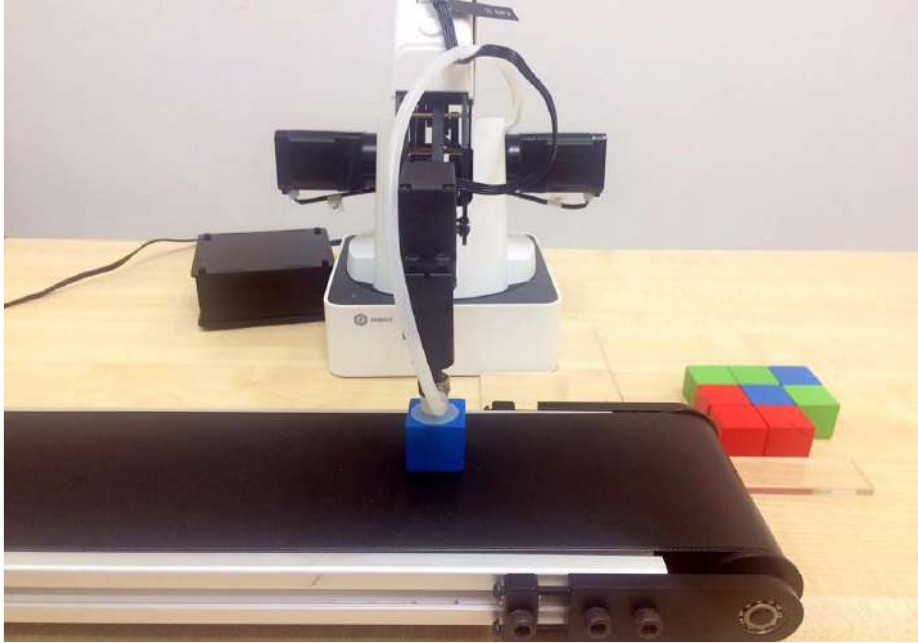

Figure 4.3 Adjust Placing position
- Select **SuctionCup** to pick up the blocks, and then press and hold down the **Unlock** button to move the Dobot 1 to make the blocks on the conveyor belt. As shown in Figure 4.3.